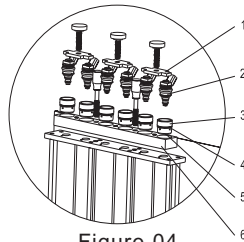

Figure.04
- Install the oil separator and fuel injector on the oil separator bracket and evenly tighten the two knurled screws (black). The installation diagram is shown in Figure.04.